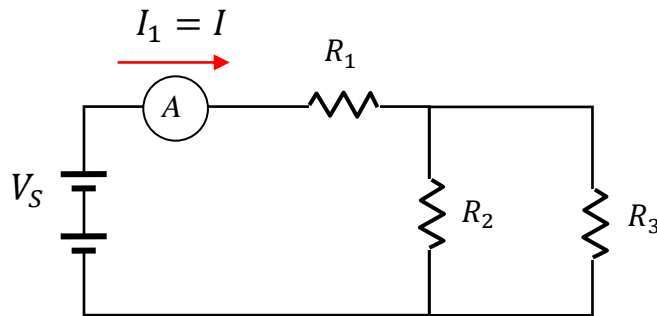

Figure 11. Series-Parallel circuit setup
4. Now use this combination of R_1 , R_2 and R_3 to construct the series-parallel circuit shown in Figure 11, with the ammeter in series with the two batteries and R_1 . Measure and record the current I_1 as the *measured* value in Table D.